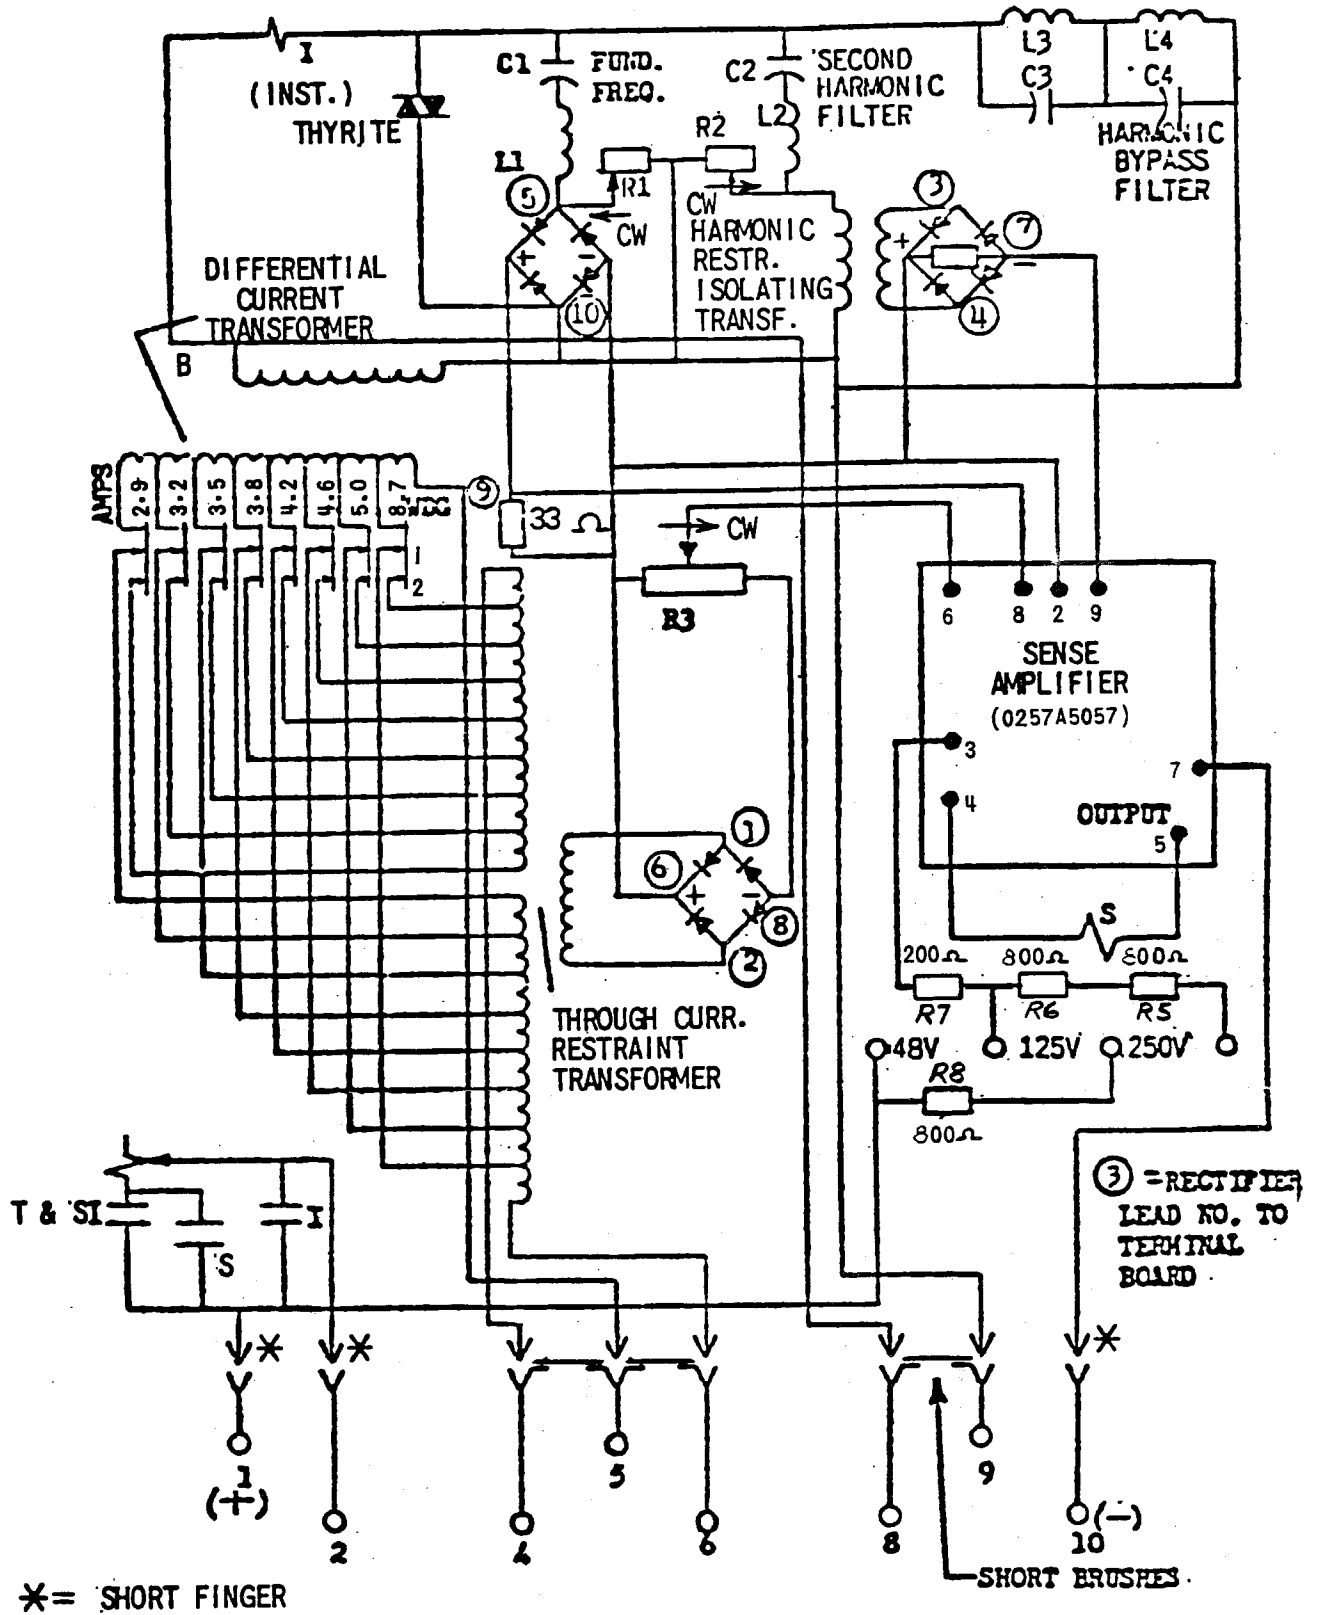

Figure 1 (0257A5031-0) Internal Connections Diagram for the Type STD99AB Relay (Front View)
- Figure 1 - illustrates the internal connections diagram for the Type STD99AB relay.